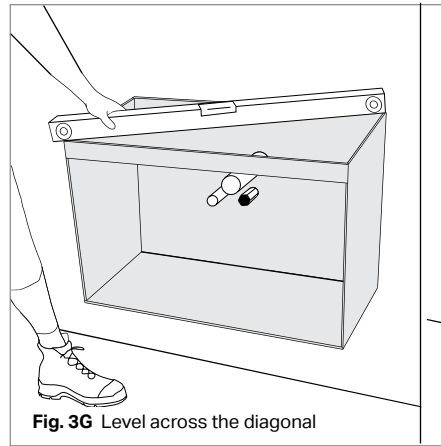

Fig. 3G Level across the diagonal
- Level across the diagonal (Fig. 3G)